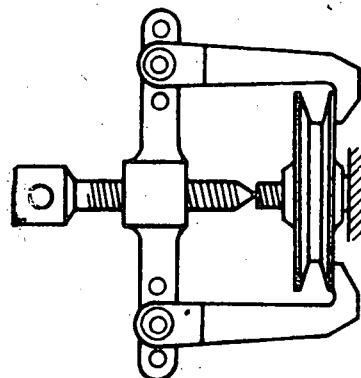

Fig. 2
- f) Remove the pulley with the extractor (fig. 2) and remove the key.